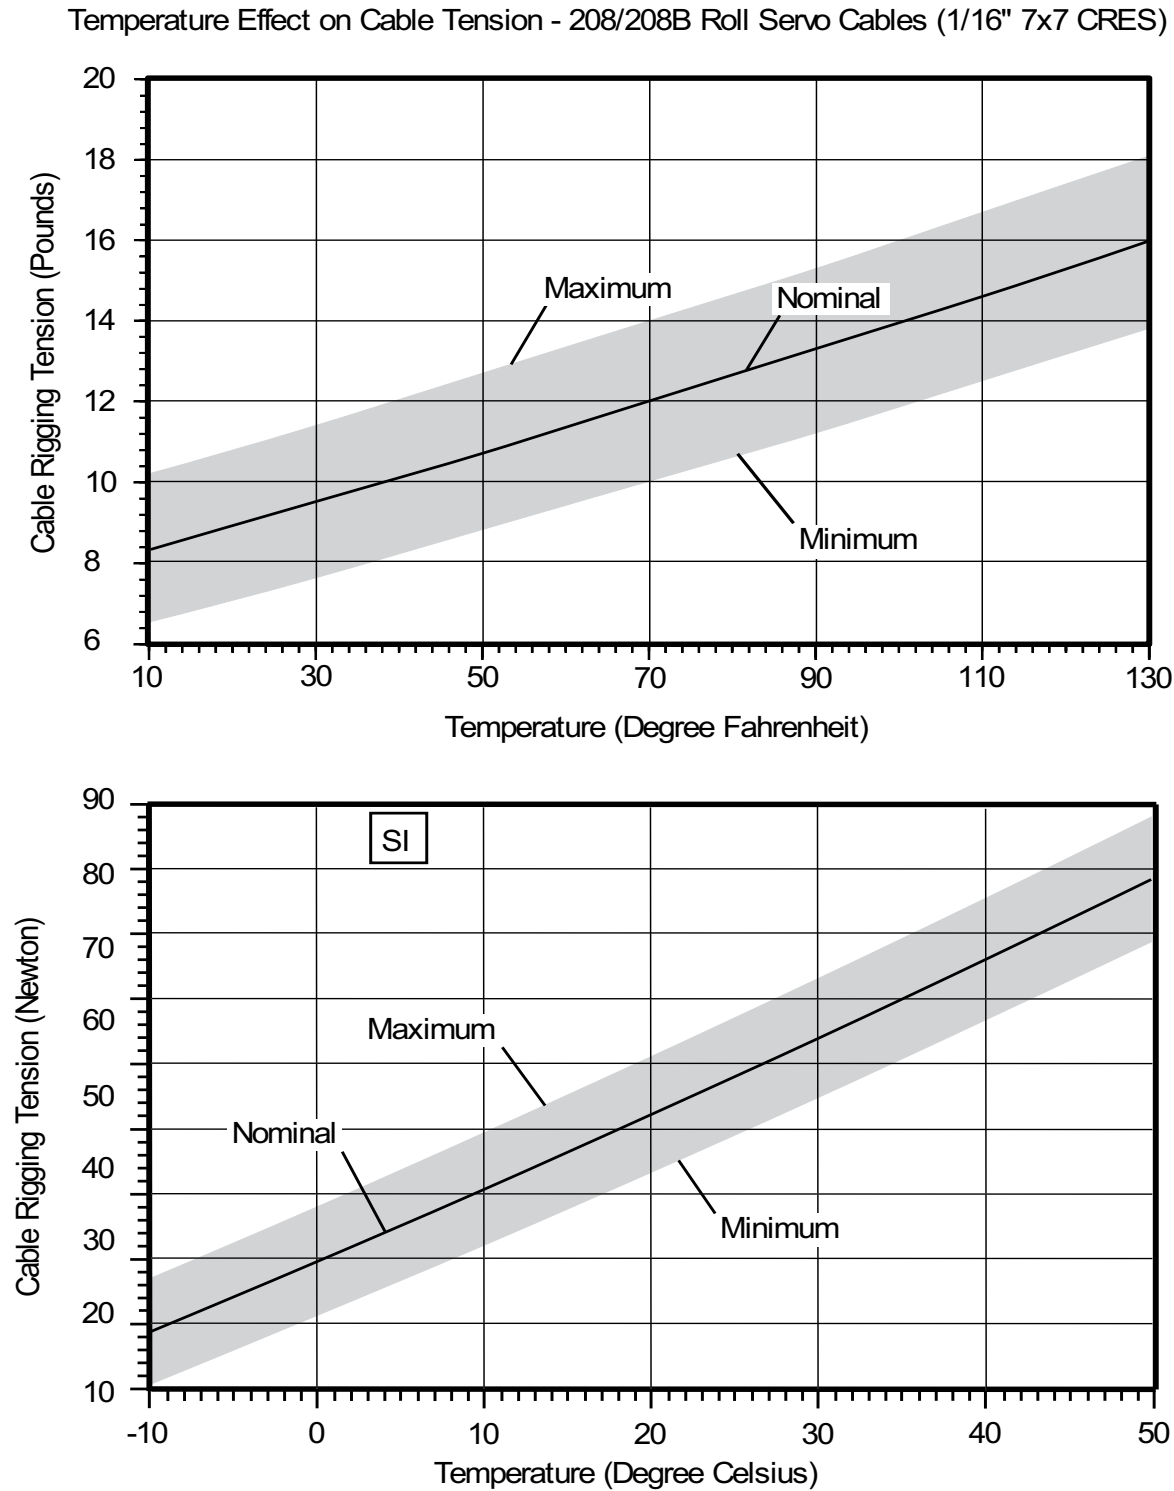

Figure 602 : Sheet 1 : Temperature Effect on Cable Tension - 208/208B Aileron Wing Cables (1/8" 7*19 CRES)
- (1) Remove panels 212FR, 226B, 231BL, 231CL, 251CL, 251DL, 252BR, 252FR, 501BB, 501CB, 501DB, 501EB, 503AB, 503BB, 503CB, 503DB, 503EB, 601BB, 601CB, 601DB, 601EB, 603AB, 603BB, 603CB, 603DB, 603EB, and 651AB to get access to the aileron components. Refer to Chapter 6, Access Plates and Panels Identification - Description and Operation.
- (2) Open (unzip) the fabric headliner (passenger) or remove the hard shelled headliner (cargo) to get access to the aileron components. Refer to Chapter 25, Cabin Upholstery - Maintenance Practices.
D. Do a Functional Check of the Aileron System (Refer to Figure 601, Figure 602, Figure 603).
- (1) Examine the aileron control and the aileron trim tab system cable movement for binding and full travel.
- (2) Examine the aileron skins for corrosion, cracks, and loose rivets.
- (3) Examine the aileron trim tab skins for corrosion, cracks, and loose rivets.
- (4) Examine the aileron trim tab stop blocks (right wing) for corrosion, condition, and security of installation.
- (5) Examine the aileron trim tab control and indicator for corrosion, condition, and security of installation.
- (6) Examine the balance weights for looseness and the supporting structure for corrosion, cracks, and failed fasteners.
- (7) Examine the aileron hinges, hinge bolts, hinge bearings, attach fittings, horn, and bonding jumper for corrosion, cracks, signs of damage, wear, failed fasteners, security, and correct safetying.
- (8) Examine the bellcranks in both wings and above headliner and the bearings, push rods, stop bolts, and brackets, for corrosion, cracks, signs of damage, failed fasteners, security of installation, and correct safetying.
- (9) Examine the aileron and aileron trim cable runs for correct routing, fraying, and twisting.
- (19) Examine the control wheel for condition and security of installation.
- (20) Examine the control column for corrosion, signs of damage, failed fasteners, and security of installation.
- (21) Examine all welds in the column tube and the torque tube for corrosion and cracks.
- (22) Examine both torque tube support arms for corrosion, condition, and security of the attach bearings.
- (23) Examine the support arm attach structure for corrosion, condition, cracks, and correct safety of the attach bolts.
- (24) Examine the cable guards for corrosion, condition, and security on both column quadrants.
- (25) Examine for sufficient clearance of all components and structure at the full aft and the full forward positions.
- (26) Make sure that the chain is correctly centered and aligned on the sprocket.
- (27) Make sure that the chain is correctly attached to the cable assembly and turnbuckle terminal with the chain connecting links.
E. Examine the Cable Travel and Tensions (Refer to Figure 601, Figure 602, Figure 603).
- (1) Use the cable tensiometer to measure the Aileron Wing cable tension.
- (2) Use the cable tensiometer to measure the Aileron Fuselage cable tension.
- (3) Set the control wheels to put the ailerons in the neutral position.
- (4) Attach an inclinometer on the left aileron and set it to zero degrees.
- (5) Examine the cable tensions and adjust if necessary.